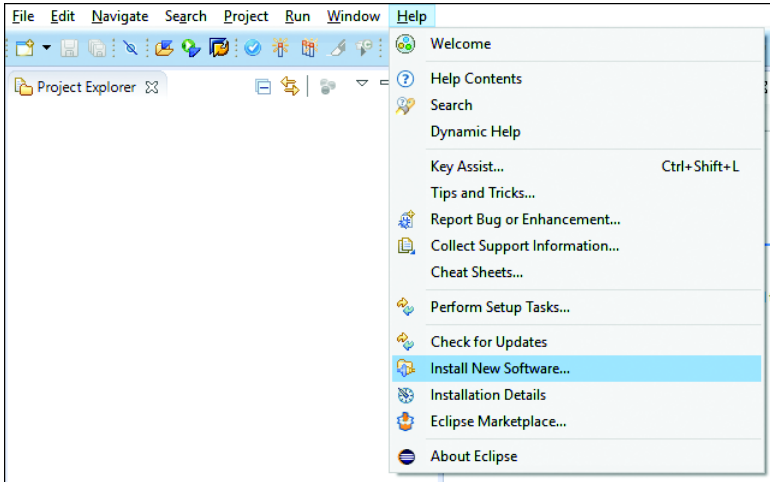

Figure 3.18 Installing ADT in Eclipse
3. To add ADT to Eclipse, open the installation wizard from within Eclipse via the menu path **HELP • INSTALL NEW SOFTWARE** (see Figure 3.18).